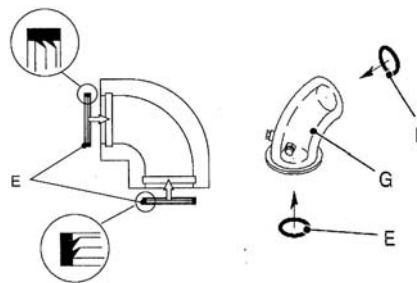

Figure 5
Install the red exhaust o-ring gaskets (E) into each of the vent component female ends as shown in Figure 5. Be sure to install the gaskets so the beveled rings are oriented as shown in Figure 5.